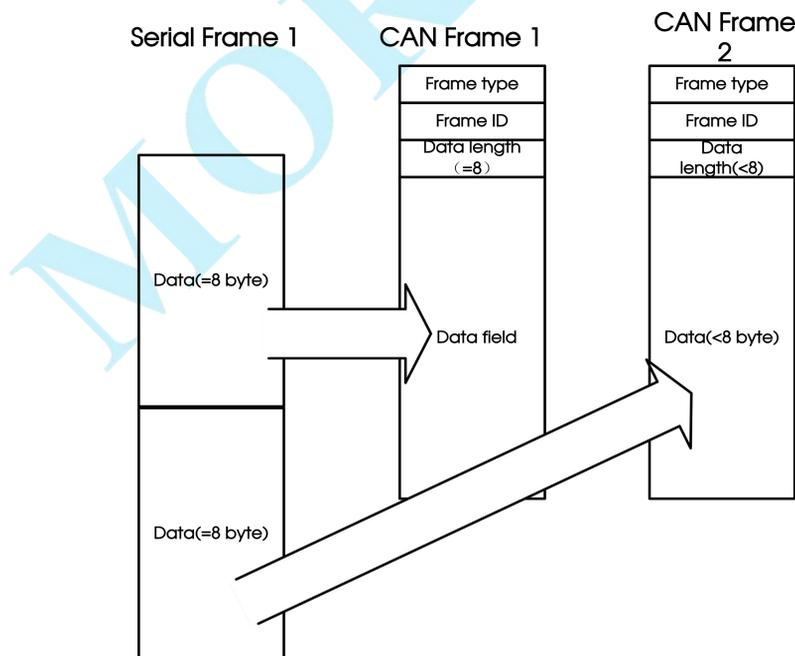

Figure 3.10 Conversion from serial frame to CAN frame (transparent conversion, data greater than 8 bytes)
3.9 and Figure 3.10. CAN frames only indicate the following useful information: frame type, frame ID, data length and data field. The "Frame Type" and "Frame ID" in the CAN frame are determined by the user's configuration and remain unchanged all the time unless the user reconfigures the product. The "data length" in the CAN frame is determined according to the actual number of bytes of data allocated to the CAN frame.